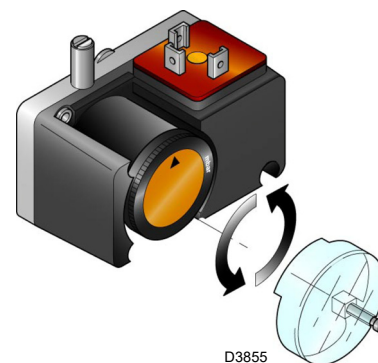

Fig. 37
- Adjust the pressure switch for the valve leak detection control device (PVP Kit)(Fig. 37 at page 35), if present, according to the instructions supplied with the Kit itself.
Adjust the pressure switch for the valve leak detection control device (PVP Kit)(Fig. 37), if present, according to the instructions supplied with the Kit itself.